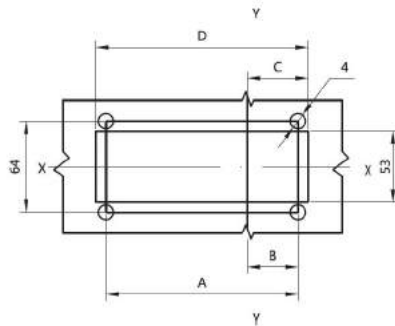

Fig3
5.3 Fixed type or Insert type circuit breaker cabinet Install hole(see Fig3)